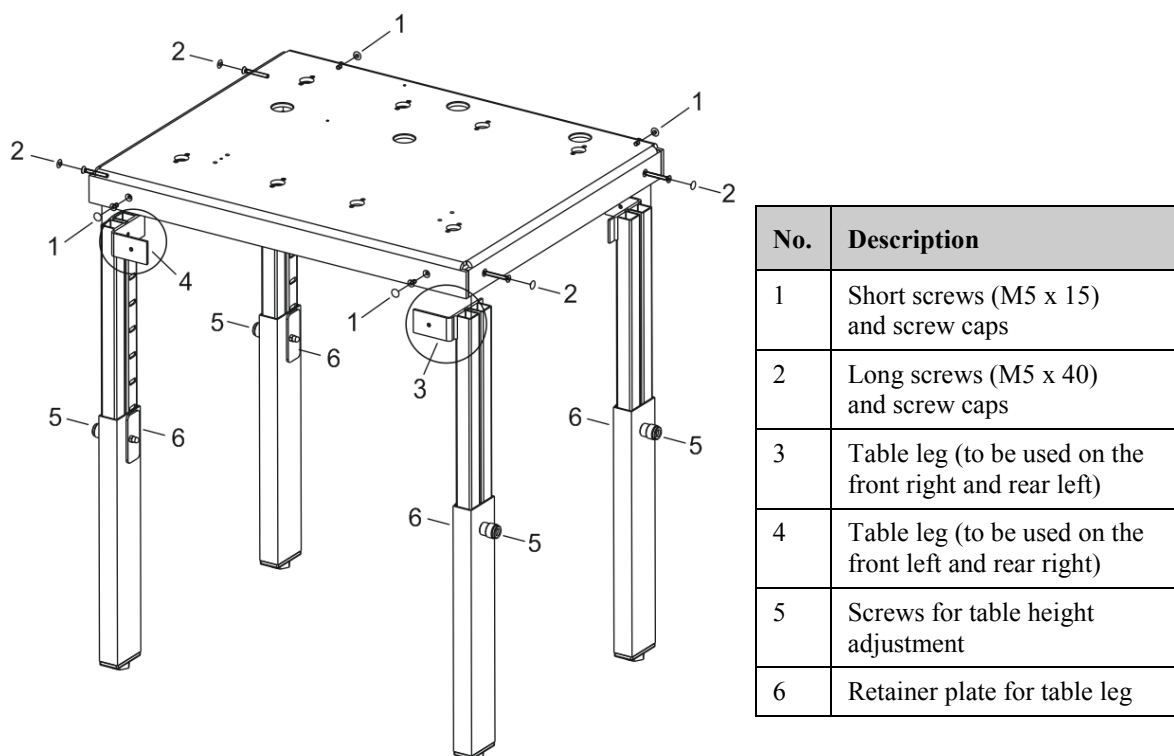

Fig. 6: Assembling the autosampler table
- a) Loosen the leg screw (no. 5 in Fig. 6) by turning the screw counterclockwise to the stop.